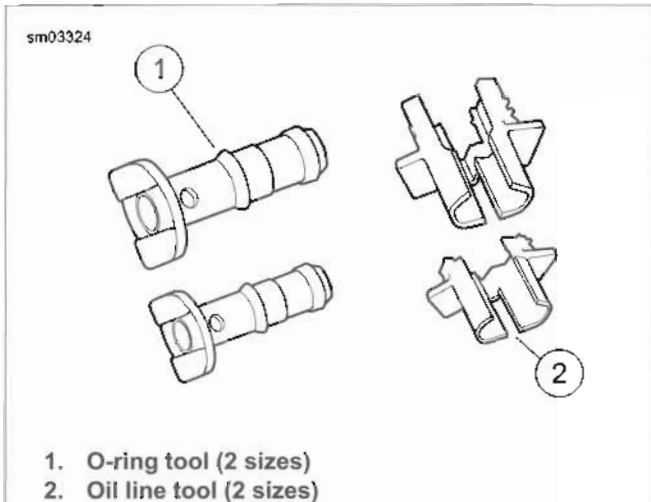

Figure 3-173. Oil Line Tools
- There are two sizes of oil line retainers and fittings. Use the appropriate sized oil line tool for all service procedures. See Figure 3-173.